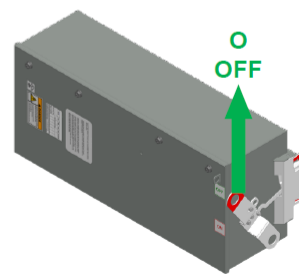

Figure 32. Turin-off
- Turn-off position. (Figure 32)